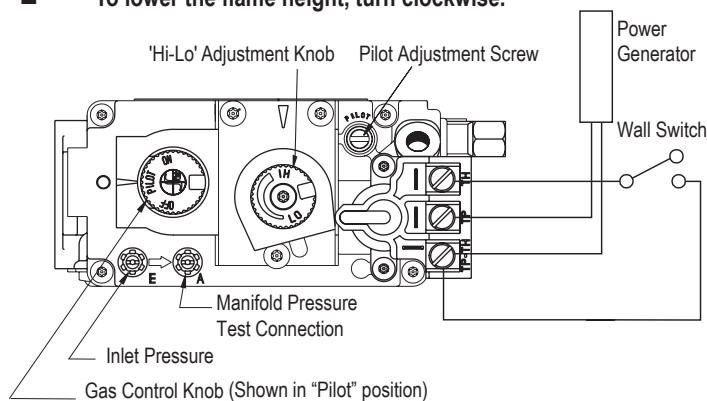

Figure 26. 'Hi-Lo' Adjustment on the SIT Nova 820 gas valve,
The L38DF-ST* is equipped with an adjustable burner, allowing you to raise or lower the flames. To adjust the flames, locate the black knob marked 'Hi-Lo', in the centre of the gas control valve (See Figure 26).
1. Locate Pilot Adjustment Screw. (See figure 26 or 27.)